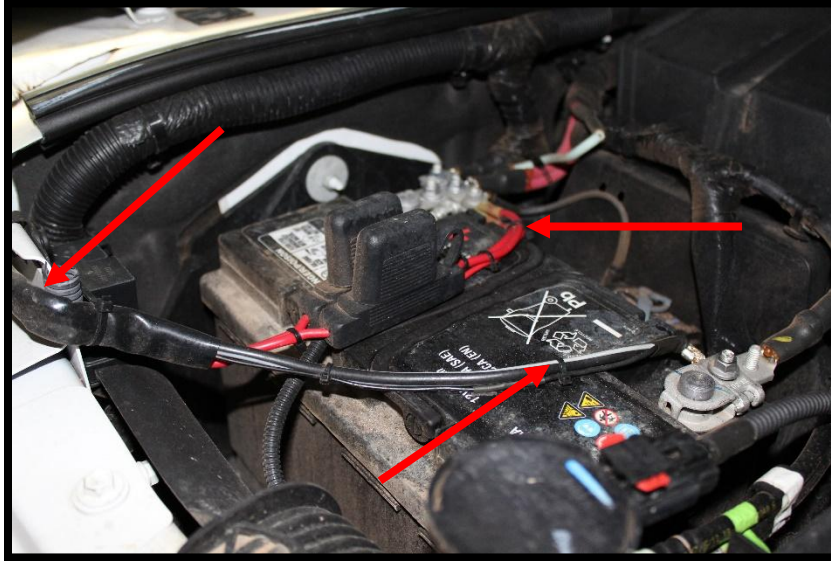

Figure 18
- 4-E) Go back to the engine compartment and attach the ARB harness to the battery (**Figure 18**). Crimp and use a heat source to attach and seal one of the provided ring connectors to each positive wire (**red**). Attach both to the positive (+) terminal of battery. Repeat with the remaining ring connector to connect both negative wires (**black**) to the negative (-) terminal of battery. Make sure the wires are secure and run in a fashion not to interfere with anything.